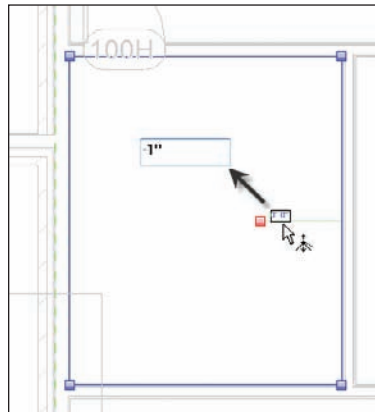

FIGURE 6.49 Dropping the elevation of the drain down 1" from the surface of the floor
7. Press Esc once. This will put you in the Modify Sub Elements mode. You will know you are in this mode by the icon next to your pointer, as shown in Figure 6.49.